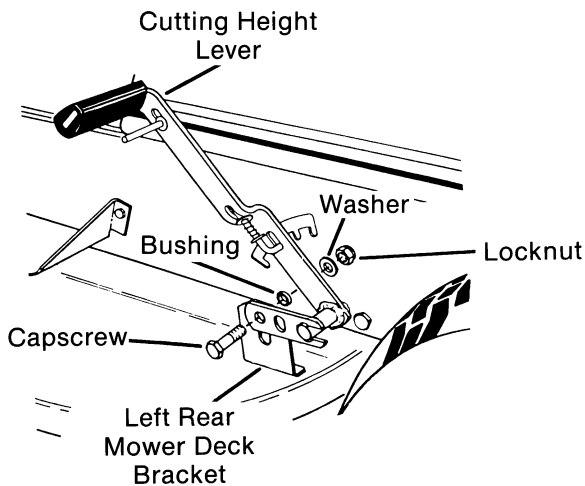

FIG. 11
- E. Remove capscrews, washers, bushings and locknuts securing left and right rear mower deck brackets to rear lift assembly. (Fig. 11)